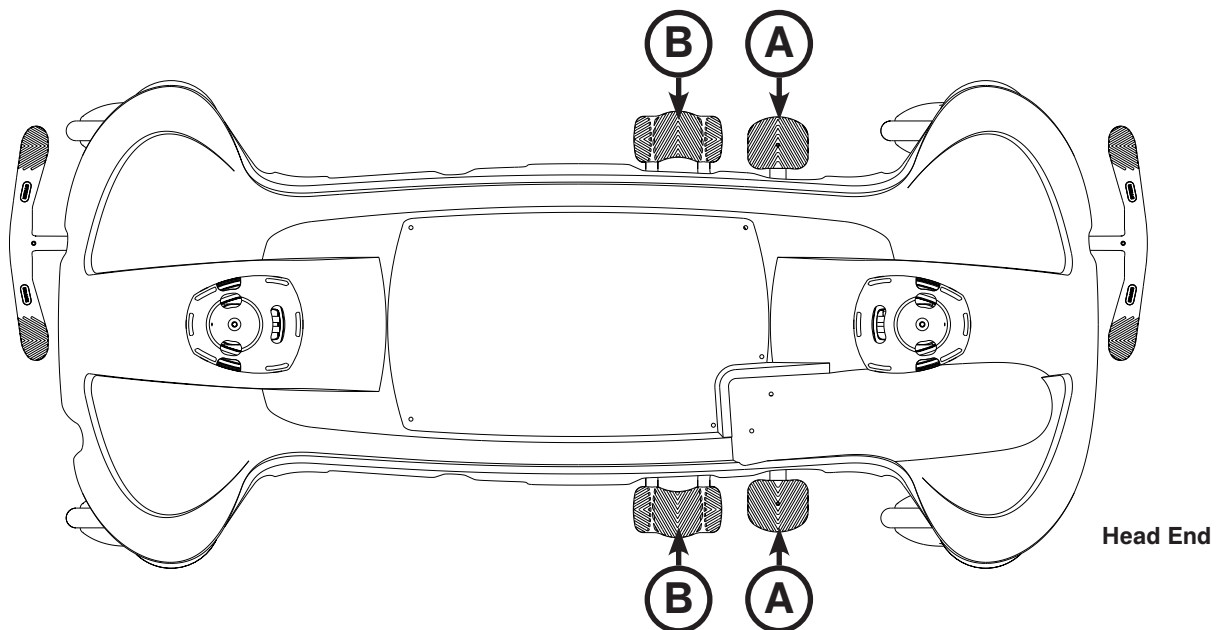
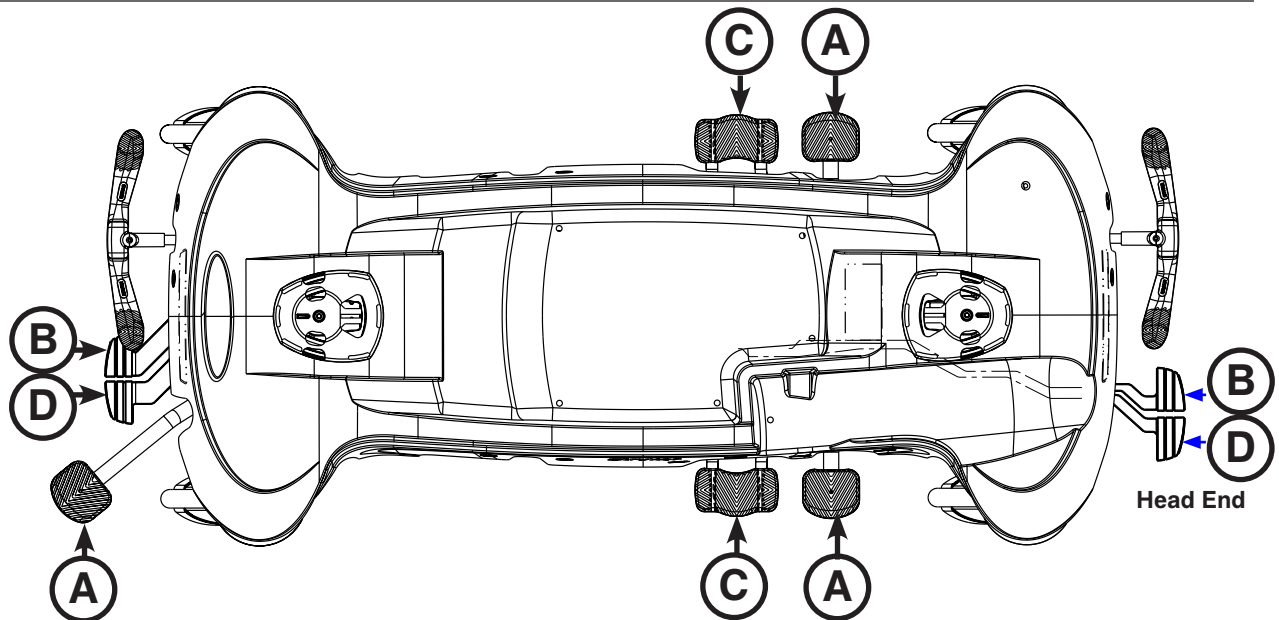

Figure 7: Stretcher Base Controls - Side Control
Figure 9: Stretcher Base Controls - Optional Three-Sided and Four-Sided Control
To operate the base controls, see Figure 7 to locate which pedals are used for what operation.
To operate the base controls, see Figure 9 to locate which pedals are used for what operation.
To raise the litter height electrically, depress pedal (A) (see Figure 7 on page 22 or Figure 9 on page 23). The litter will begin to raise. Hold the pedal down until the desired litter height is achieved. Release the pedal at any time to stop the litter motion.
For Trendelenburg positioning (head down), depress the side of pedal (B) closest to the head end (see Figure 7 on page 22).
For reverse Trendelenburg positioning (foot down), depress the side of pedal (B) closest to the foot end (see Figure 7 on page 22).
To lower the stretcher from reverse Trendelenburg position, depress pedal (A) once to raise the foot end of the stretcher, and then depress pedal (B) (see Figure 7 on page 22).